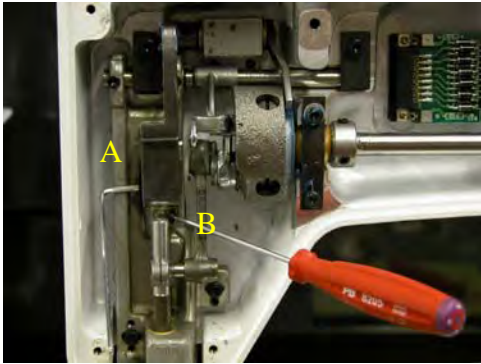

Figure 7.2
- Loosen screws A and B in figure 7.2